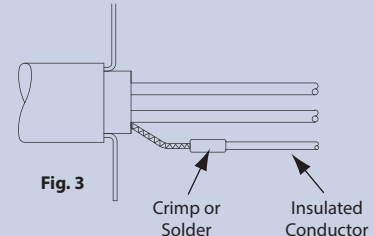

Fig. 3
- 2.5 Crimp an insulated conductor to the pigtail with a suitable insulated butt ferrule (or soldered connection), leaving enough length of the insulated conductor to enable the remote end to be connected to the earth terminal in the equipment. (See Fig. 3). Note: There shall be a minimum of 10mm of compound on both ends of the crimped /soldered joint.